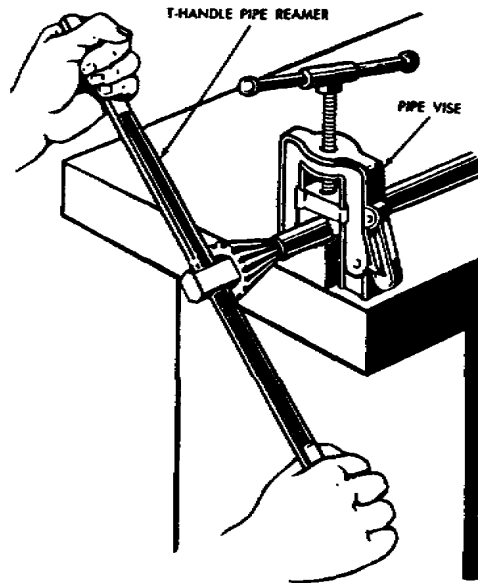

Figure 28. Removing bur from cut pipe.
(3) Taper pin reamers. Before using a taper pin reamer be certain that the hole is the right size, generally just large enough to allow about 1/2 inch of the reamer's length to go into it. The drill used to make the hole must be the largest possible size that will allow the reamer to clean up the hole along its entire depth. Keep the reamer as straight as possible and ream hole as discussed above. To prevent damage to the walls of the hole, remove the reamer frequently and brush away the metal chips that stick to the flutes.
(4) Pipe reamers. Before using a pipe reamer (fig 28), inspect the flutes to see if they are sharp and even and free from nicks or burrs. Insert the point of the reamer into the pipe and push firmly. Rotate the handle of the reamer clockwise in short even strokes until the burrs inside the cut piece of pipe are completely removed. Remove the reamer from the pipe by rotating it clockwise and removing it simultaneously.